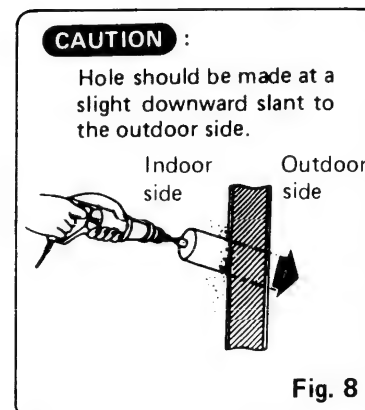

Fig. 8
- c) If tubing and wire are to go directly out back of unit, make holes on the wall. Fig. 8